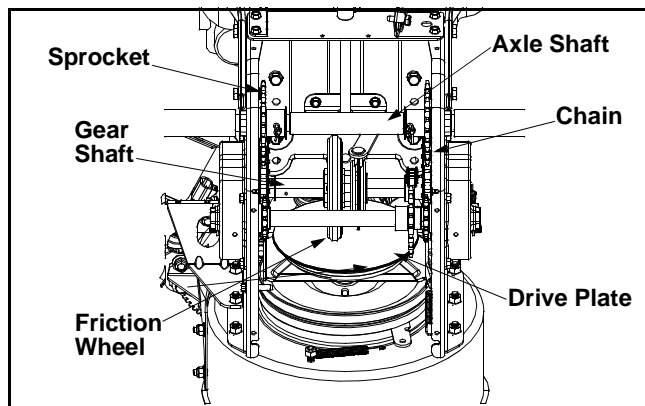

Figure 8
- With the traction control engaged, the friction wheel must contact the drive plate. See Figure 8.
Lubricate the gear shaft with 6-n-1 grease at least once a season or after every 25 hours of operation (available at automotive stores, or order part number 737-0170). Refer to Figure 8.
Lubricate at least once a season or after every 25 hours of operation. Remove the rear cover, lubricate any chains, sprockets, gears, bearings, shafts, and shifting mechanism at least once a season. Use engine oil or a spray lubricant. **Avoid getting oil on the friction wheel rubber and aluminum drive plate.** Refer to Figure 8.